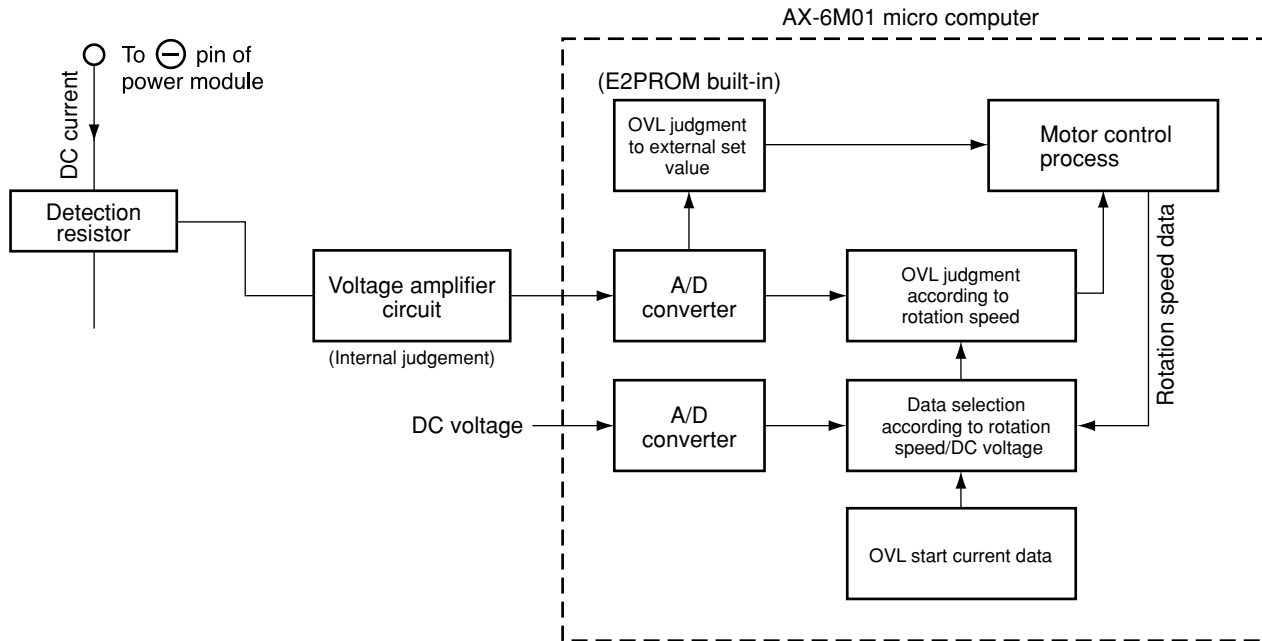
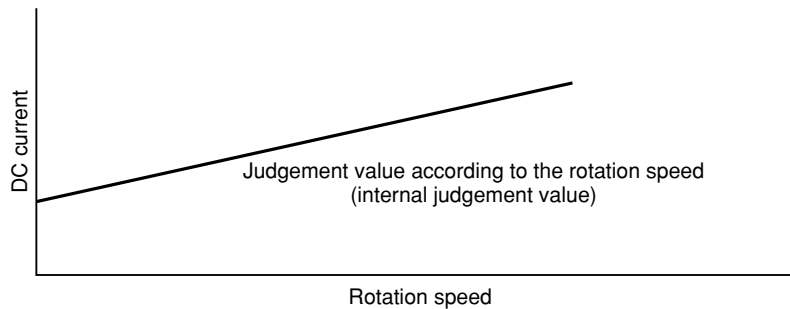

Fig. 8-1 Overload Control System Configuration
Fig. 8-2
- Fig. 8-1 shows the overload control system configuration and Fig. 8-2 shows characteristic diagram of overload judgement values. There are two judgements. One is external judgment: External set value and DC current value are compared for judgment regardless of rotation speed. The other is internal judgment: set value varying according to rotation speed programmed in microcomputer is compared with DC current value for judgment.